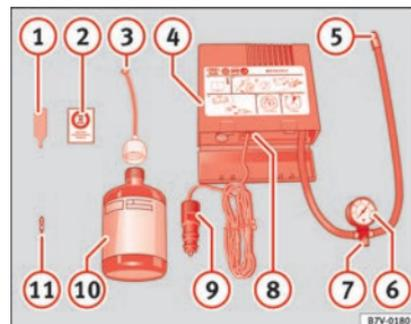

Fig. 50
- Unscrew the tyre valve cap and insert. Use the »» Fig. 50 ① tool to remove the insert. Place it on a clean surface.
- Shake the tyre sealant bottle vigorously »» Fig. 50 ⑩.
- Screw the inflator tube »» Fig. 50 ③ into the sealant bottle. The bottle's seal will break automatically.
» **Fig. 50 ③** and screw the open end of the tube into the tyre valve.
- Place the insert back into the tyre valve using the tool » **Fig. 50 ①**.
» **Fig. 50 ⑤** into the tyre valve.
» **Fig. 50 ⑦**.
- Insert the connector » **Fig. 50 ⑨** into the vehicle's 12-volt socket » **page 113**.
- Turn the air compressor on with the ON/OFF switch » **Fig. 50 ⑧**.